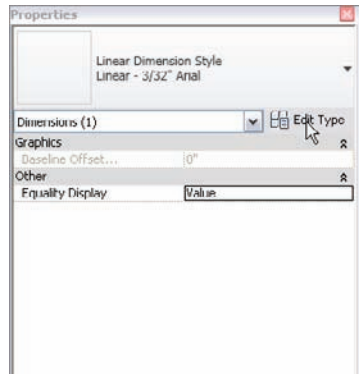

FIGURE 5.13 Clicking the Edit Type button to begin creating a new dimension style
2. In the Properties dialog, click the Edit Type button, as shown in Figure 5.13.